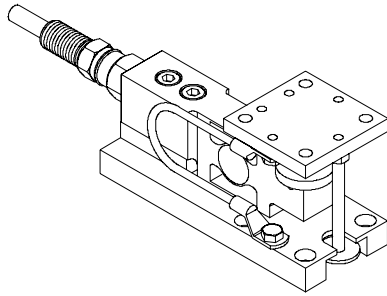

FIG. 5: GROUND STRAP INSTALLED
- Step 5. Place one of the ground strap connectors over the threaded hole in the base plate. These are the ones that fastened the shipping bracket to the base. (See Fig. 5)